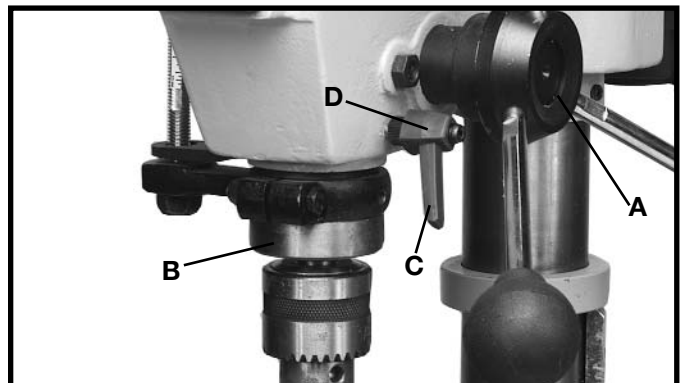

Fig. 26
The spindle is raised and lowered by means of the pilot wheel (A) Fig. 26. The quill (B) can be locked at any desired point in its travel by tightening the quill locking lever (C). **NOTE:** The quill locking lever (C) is spring-loaded and the handle can be repositioned by pulling out on the handle (C) and repositioning the hub (D) of the handle on the bolt located underneath the hub.